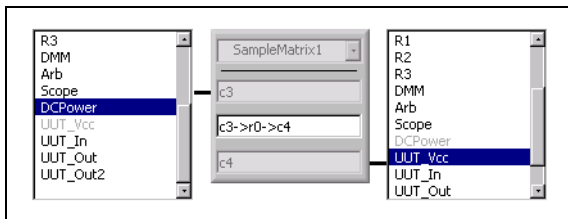

Figure 5. Complete Path
- Select the second endpoint of the route in the right column. Notice how the dashed line becomes a solid line in Figure 5. This solid line indicates the path is complete.